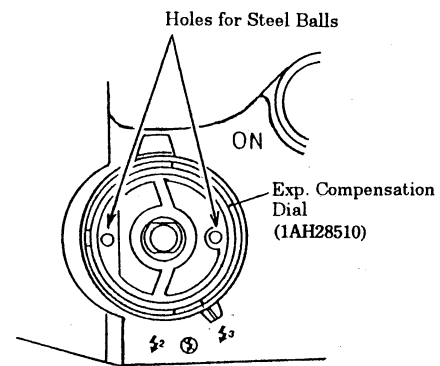

Fig. 5
- 2) Install the Exp. Compensation Dial (1AH28510) in the position as shown in Fig. 5.